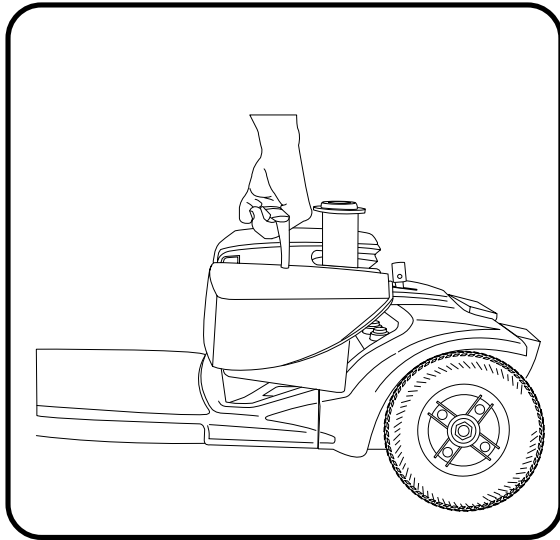

Figure 13. Lifting The Battery Pack
3. Remove the battery pack. Use the battery pack handle to pull the battery pack up and away from the scooter. **See figure 13.**